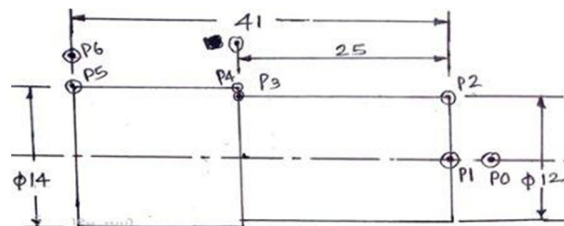

Figure No. 1
Calculate the cutting parameters and prepare process sheet for the component shown in Fig. No. 1 with neat diagram. All the dimensions are in mm.
Given: Raw material - Aluminium, Stock Size – Dia.14 X 42 length, Feed (f) = 0.2 mm/rev., Cutting Speed (V) = 90 m/min., Consider work zero (W) as per Fig. No. 1.